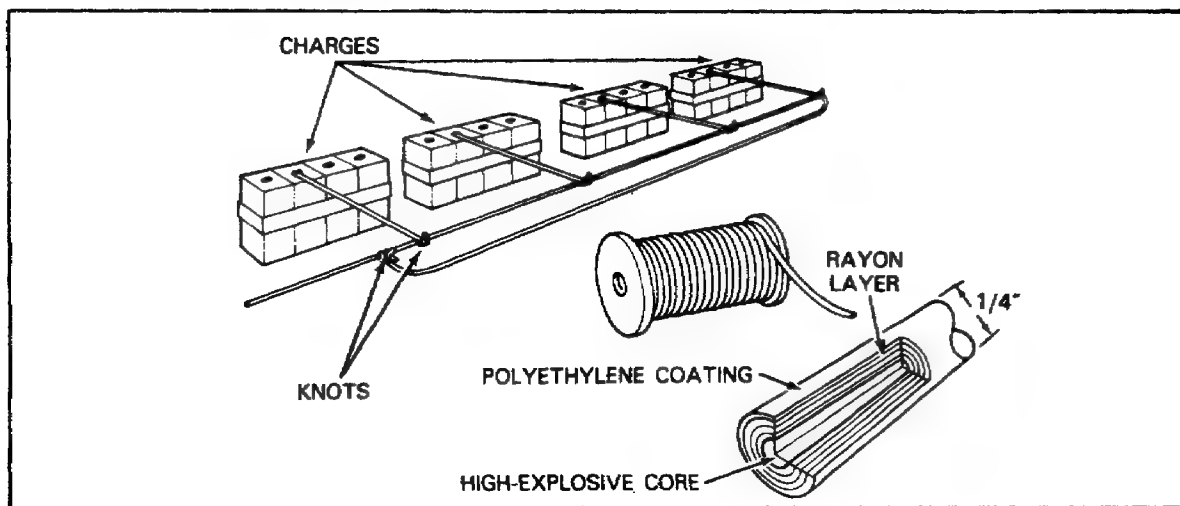

Figure 94. Detonating Cord.
**Detonating Cord.** Detonating cord (Figure 94) looks like time blasting fuse, M700, but it is very different. It has a high-explosive core that detonates when actuated by a blasting cap. It is used to detonate more than one charge at the same time. It is identified by its olive drab outer color and its white high-explosive core.